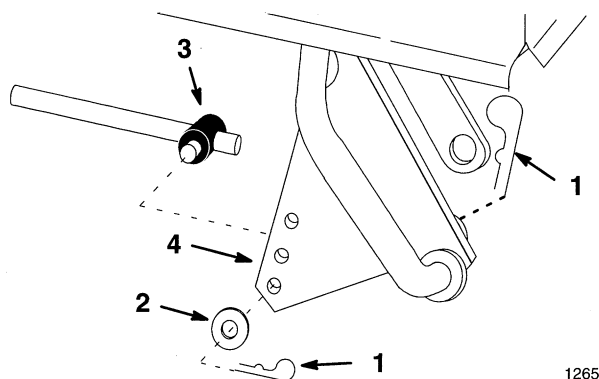

Figure 12
3. Remove hairpin cotter and washer from trunnion at lift plate (Fig. 12).
4. Remove hairpin cotter and slide lift plate off attachment lift (Fig. 12).